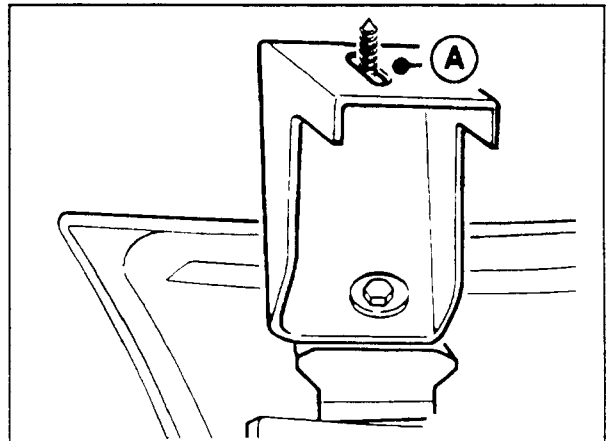

Figure 4
9. Loosen bolt (A, Figure 4) on side of bumper.